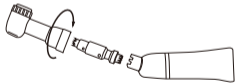

Fig. 15.1
- ① Loosen the small screw on the curving part ,move the head cover and remove the transmission gear[Fig.15.1].